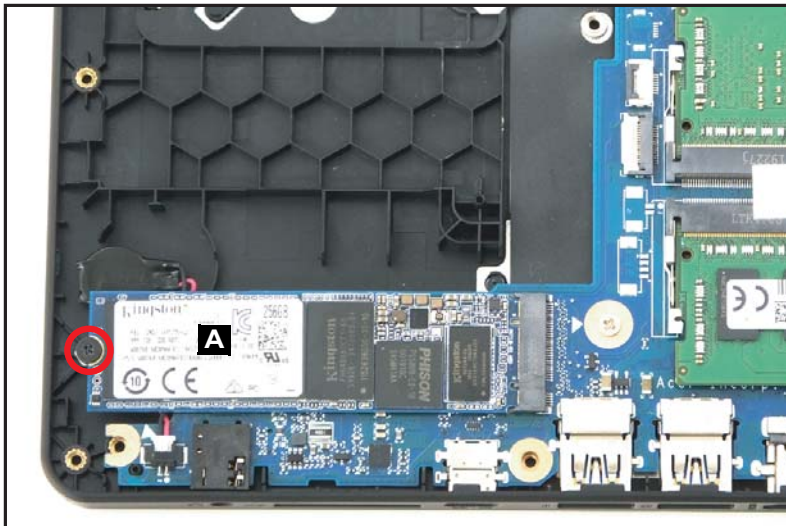

Figure 1-17. SSD Module Removal
1. Remove one (1) screw securing the SSD module (A) in place (Figure 1-17).